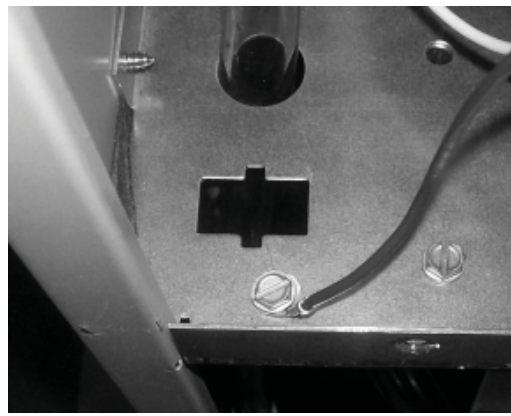

Figure 8. Opening in Front Left Floor Panel of furnace Burner compartment, Covered and Uncovered.
- c. Remove the small rectangular plate at the front left corner of the floor panel of the furnace compartment, and route the three cables through the hole. Assure that the cables are not located in such a way as to be in danger of damage by sharp sheet metal edges. (See Figure 8)